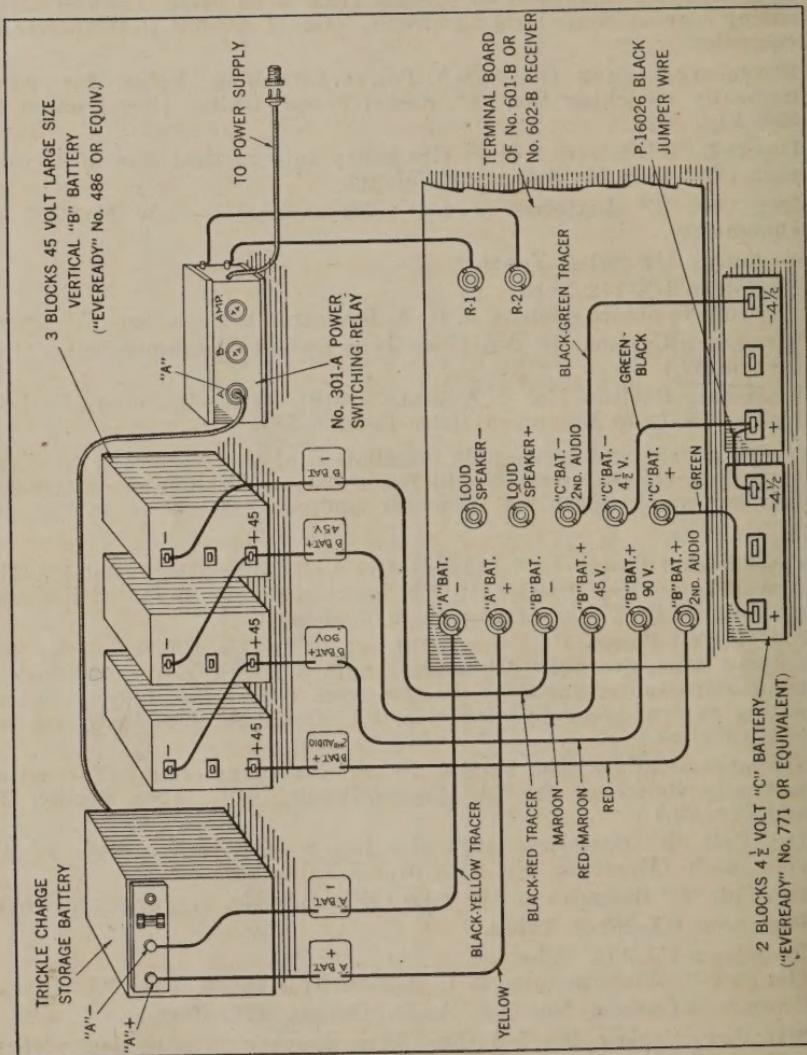

Fig. 4—External Connections for Socket-Power "A" and 135 volts of Dry Cell "B" Battery, when UX-112 Output Tube is used
**List No. 2—Socket-Power "A," 135-volt Dry Cell "B" Battery and UX-112 Power Tube** (See Section 16 for description, Fig. 4 for wiring diagram and Fig. 26 for arrangement of apparatus).